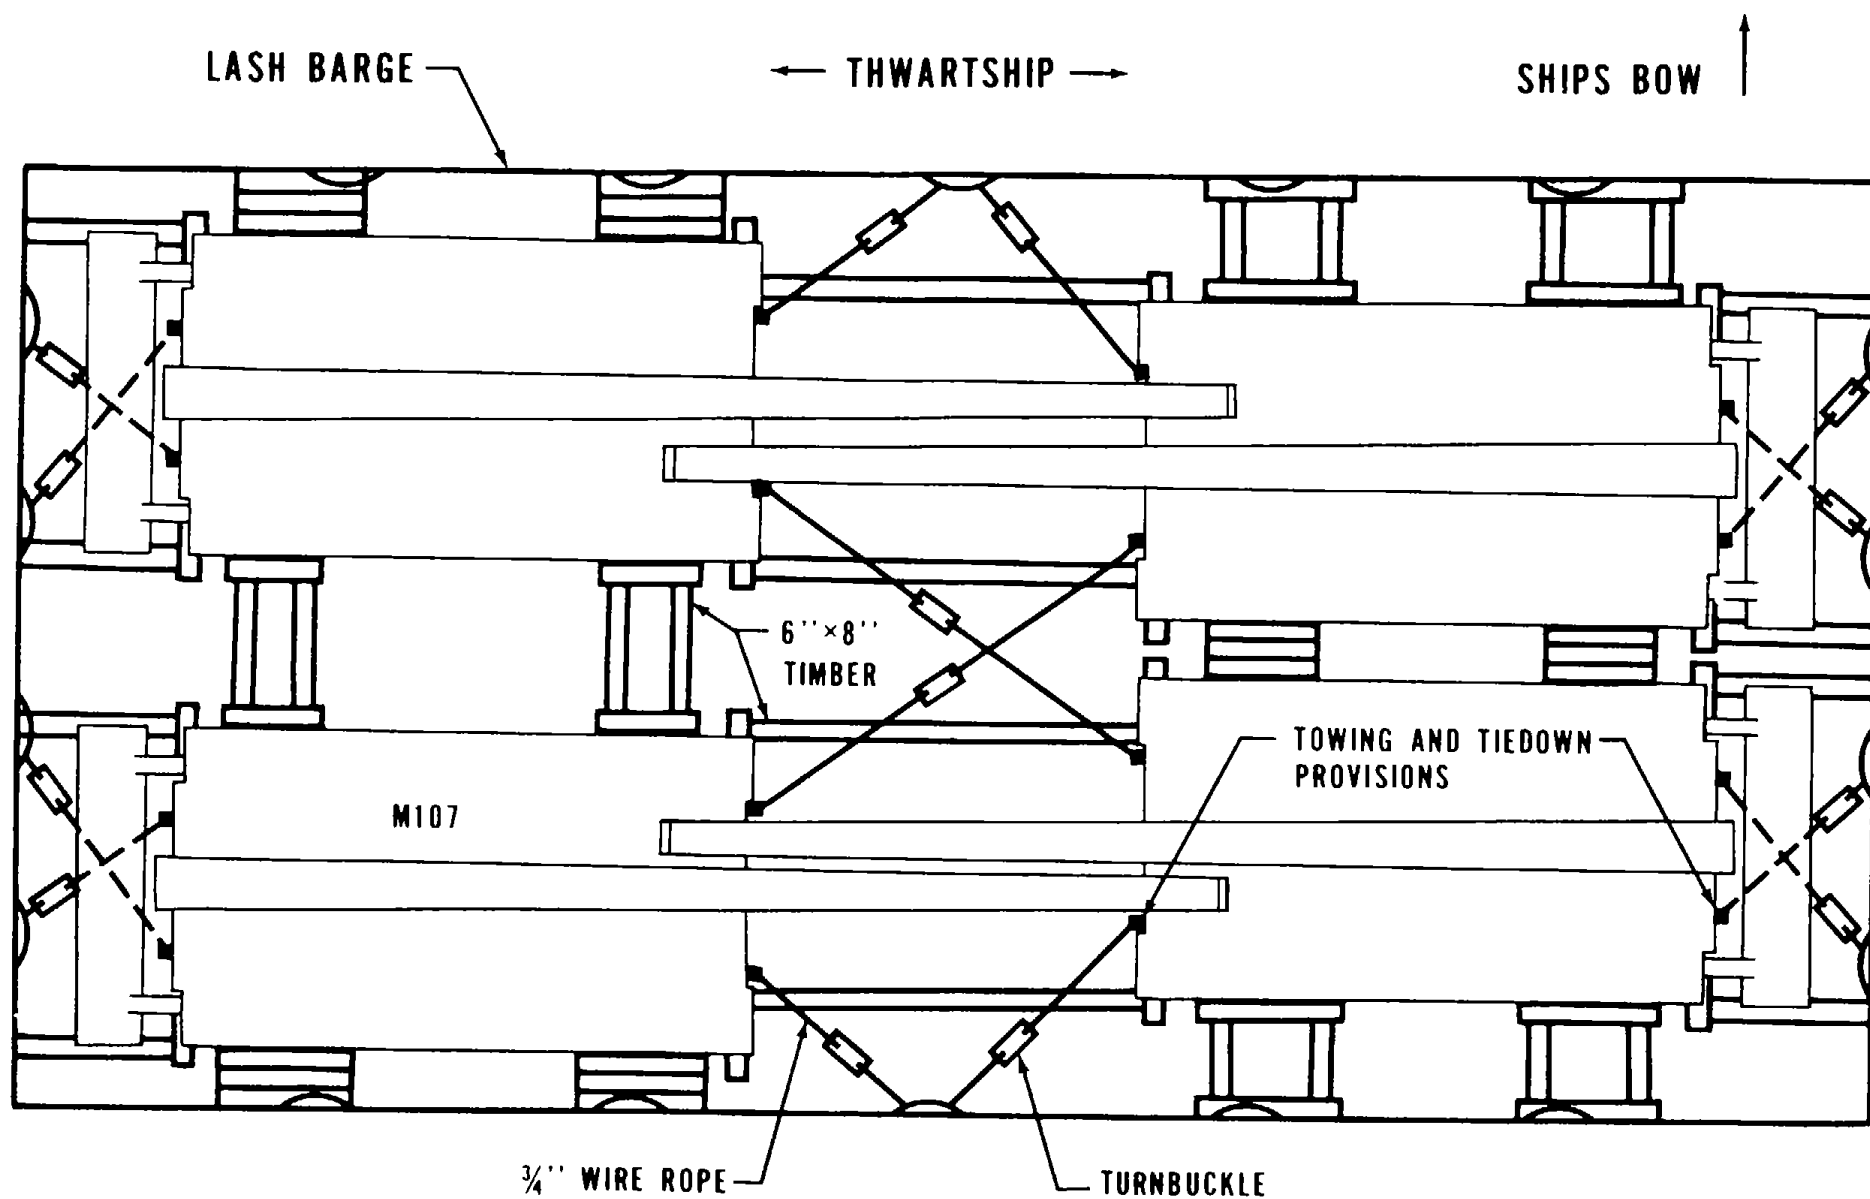

Figure 6-3. Loading of four guns, M107, on LASH barge using wire rope, cable clamps and turnbuckles, with blocking between guns and guns to hull.
a. General. Figure 6-3 illustrates a typical loading diagram of the M107 gun loaded on a barge for transport aboard a barge-type ship. Barge stability is noticeably affected by the loading of heavy-lift items, and tracked vehicles should be loaded symmetrically in sequence about the center line of the barge or lighter. The howitzers should be loaded in a manner to counterbalance variations in centers of gravity; that is, alternate head to tail.